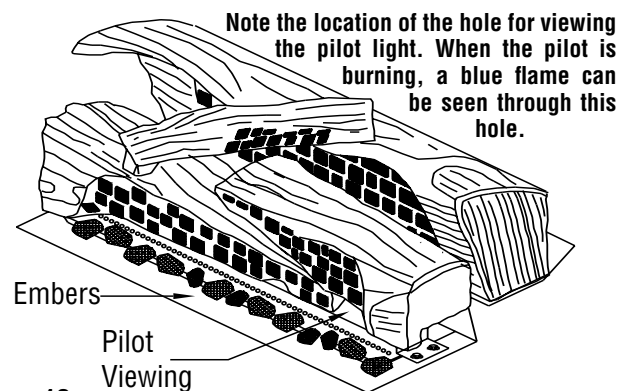

Figure 13
- 6) Figure 13 shows the entire log set assembled. The embers provided may be placed one high in front of the front burner tube using care not to cover all the burner ports. Any extra embers may be placed at the ends of the front log, off the burner. Place small pinches of rockwool on top of the embers.